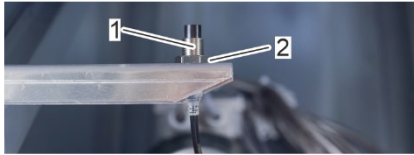

Fig. 75: Lock nut
7. Screw the locknut (Fig. 75/2) on the thread of the clock sensor (Fig. 75/1).
9. Adjust the clock sensor (Fig. 77/2) via the nuts (Fig. 77/3 and Fig. 75/2) to maintain the required switching distance of 10 – 20 mm between the clock sensor (Fig. 77/2) and the contactor (Fig. 77/1).